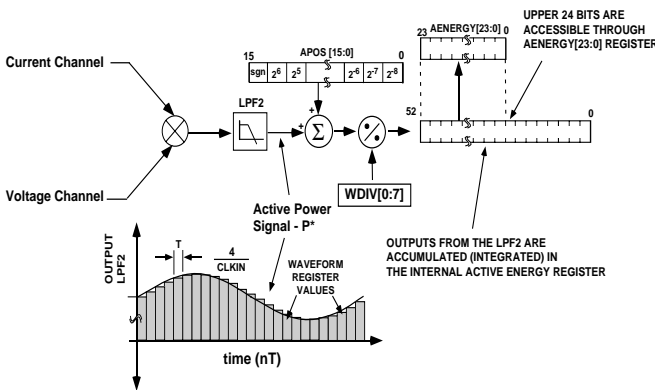

Figure 35 – ADE7753 Active Energy Calculation
The discrete time sample period (T) for the accumulation register in the ADE7753 is 1.1µs (4/CLKIN). As well as calculating the Energy this integration removes any sinusoidal components which may be in the Active Power signal. Figure 35 shows a graphical representation of this discrete time integration or accumulation. The Active Power signal in the Waveform register is continuously added to the internal Active Energy register. This addition is a signed addition, therefore negative energy will be subtracted from the Active Energy contents.
As shown in Figure 35, the Active Power signal is accumulated in an internal 53-bit signed register.